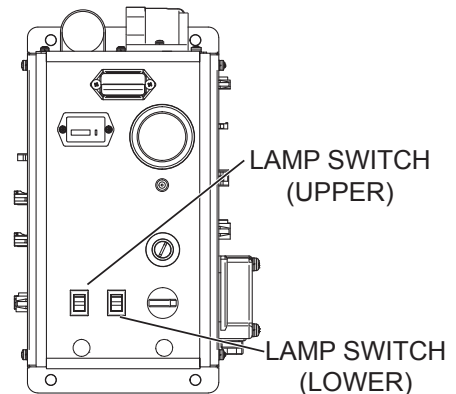

Figure 17. Turning on the Lamps
1. Press the lamp switch (UPPER) on the control panel to turn on the upper lamps (Figure 17).
2. Press the lamp switch (LOWER) on the control panel to turn on the lower lamps (Figure 17).